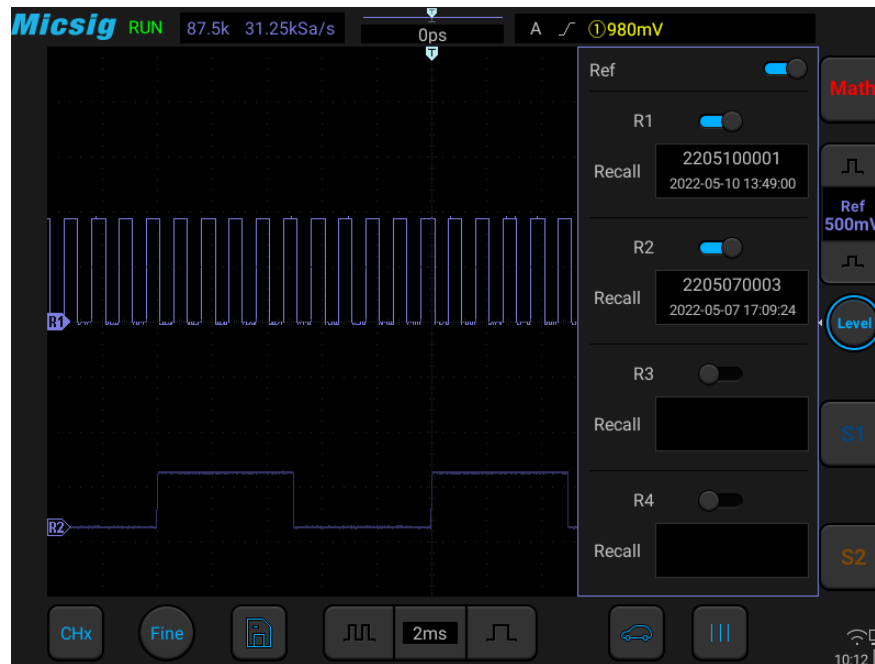

Figure 10-6 Reference Channel Menu
- 3) Click the name of the reference waveform file to be called. The file is loaded into R1 channel. Then, R1 channel is turned on as the current channel waveform, and the reference waveform channel icon  is highlighted. The displayed state changes from “Close” to “Open”. As in Figure 10-6, the brighter reference waveform is shown as the current reference channel.